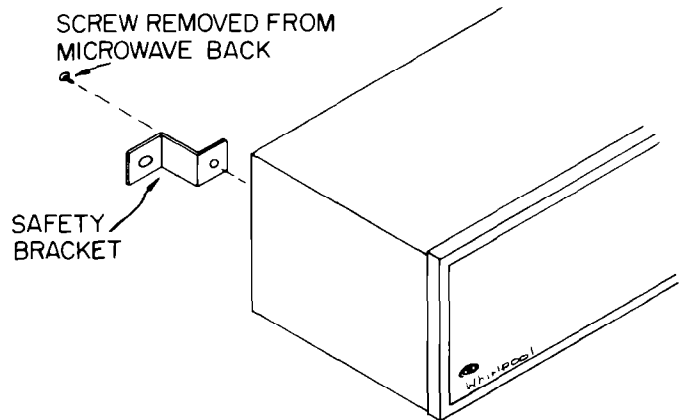

Figure 9
1. Remove the screw from the upper left hand side of the microwave oven. See Figure 9.